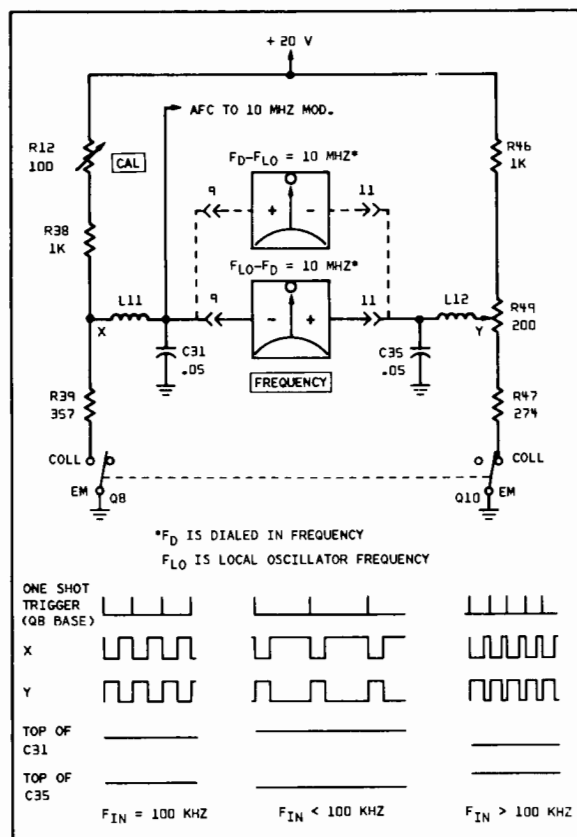

Figure 4-5. Frequency Meter Bridge Circuit
4.109 The bridge circuit includes the FREQUENCY meter on the front panel. A simplified schematic of the metering bridge circuit is shown in Figure 4-5. In this figure transistors Q8 and Q10 are shown as switches, one of which is always off when the other one is on.
4.112 For the conditions shown in Figure 4-5, the switch that is on, Q10, causes the voltage at point Y to drop to a minimum (about .6 volts) and the switch that is off permits the voltage at point X to rise to a maximum (about 20 volts). The lower part of Figure 4-5 shows the waveforms at points X and Y. The time a switch is on equals the time it is off only when the input frequency is exactly 100 kHz; that is, when the pulse durations equal the times between pulses and represent a 50% duty cycle.